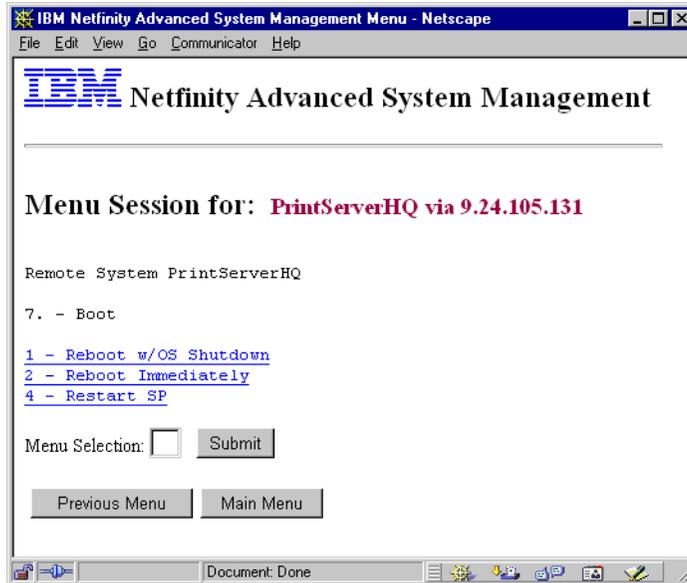

Figure 222. Remote Boot
2. Click **7-Boot**. Figure 222 appears: